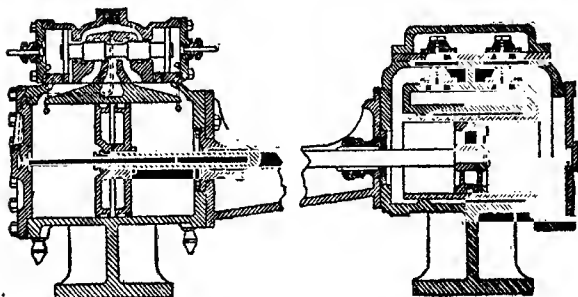

FIG. 17.—MARSH PUMP.
**Marsh Pump.**—This pump is of the independent steam-driven type with no outside valve gear (Fig. 17). The water end, which is of the piston pattern, contains two suction and two discharge valves. Directly over the suction valves (the two lower ones) is the so-called water-valve plate which carries the discharge valves and is fitted on by means of a gasket. The suction valves divided into two